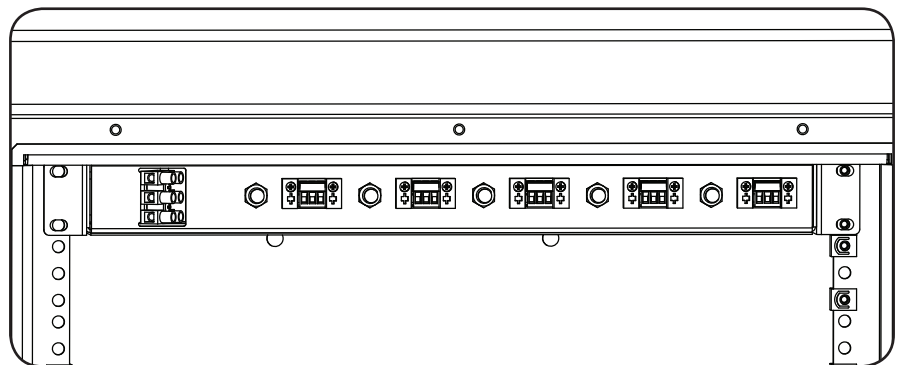

Figure 6.12 - AC Distribution Panel (factory-installed location, except for MMOE-FXM2000-48-120-LN model)
4. Secure the panel to the rails with the four supplied hex screw as shown in Figure 6.12. Torque to 65 in-lb (7 N-m).